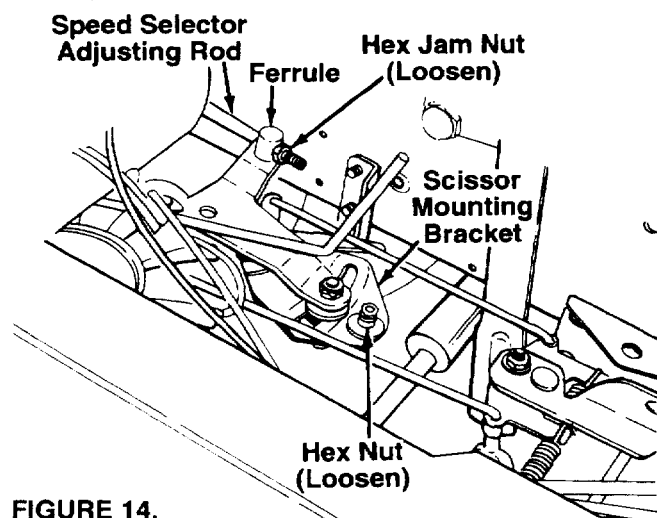

FIGURE 14.
3. Loosen the hex jam nut on the speed selector adjusting rod. See figure 14.
4. Loosen the hex nut on the scissor mounting bracket. See figure 14.